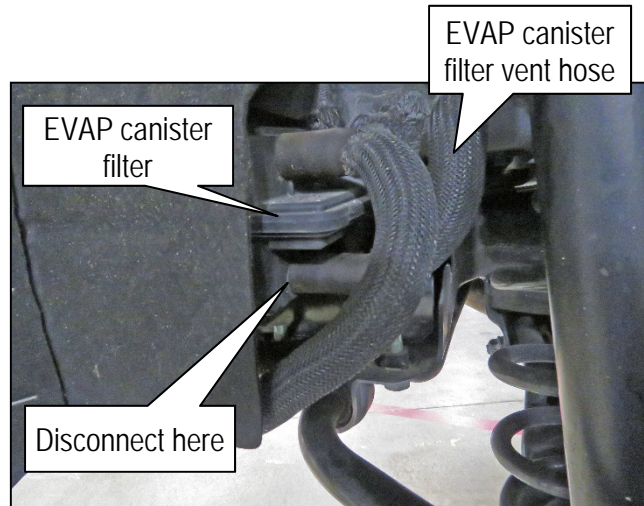

Figure 1
3. Disconnect the EVAP canister filter vent hose from the lower EVAP canister filter connection in the rear of the wheel house (Figure 1).